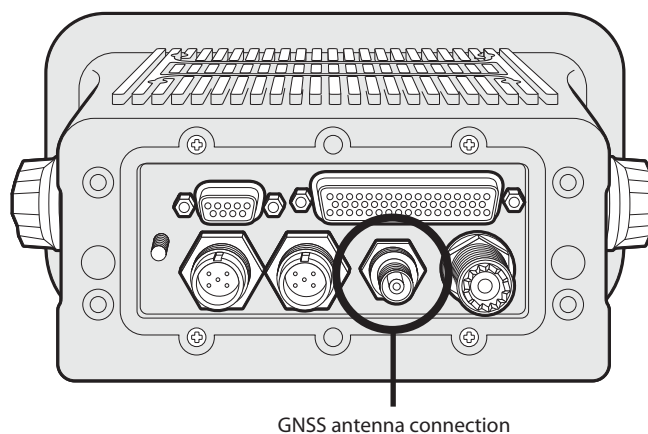
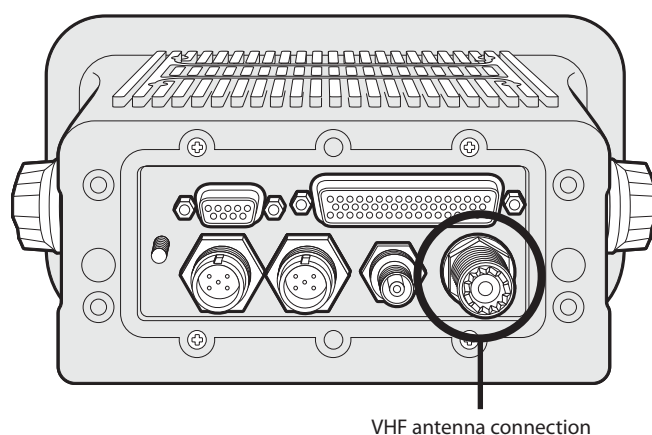

Figure 40 GNSS antenna connection
Figure 42 VHF antenna connection
- Connect the GNSS antenna cable to the GNSS connector on the AIS transceiver as shown in Figure 40.
- Connect the VHF antenna cable to the VHF connector on the AIS transceiver as shown in Figure 42.
If antenna connections have not already been made the GNSS and VHF antennas should now be connected to the transceiver. Refer to Figure 40 and Figure 42 for guidance.